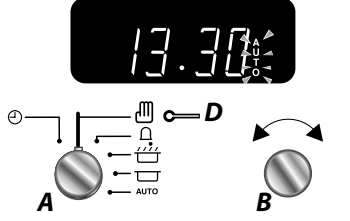

Fig. 2.29
- I. Turn the **Adjusting (B)** knob counter-clockwise or clockwise (**Fig. 2.29**).
- II. Turn either the **Timer (A)** knob to the **Clock (C)** or to the **Minute Minder (E)** setting. Return to **Manual (D)** for normal cooking mode (**Fig. 2.29**).